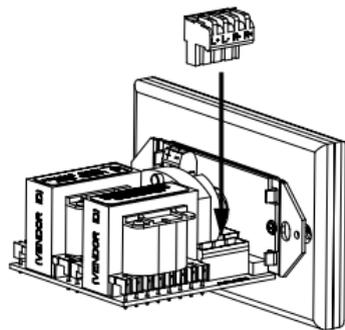

Figure 6
1. Locate the connector plugs (and remove them if they are plugged in). See **Figure 6**.
the scalloped side of the connector plug into the smooth side of the socket. See **Figure 6**.
6. Plug the connectors into the volume control as shown in **Figure 6**. The inputs of the IM volume control are the connector pins labeled AMPLIFIER. The outputs are the connector pins labeled SPEAKERS.